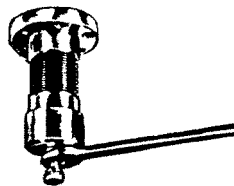

Figure 1-2 Gasket Removal Tool
- a. Place the gasket removal tool over the gasket and turn the 8-32 screw into the tapped hole (Figure 1-2).